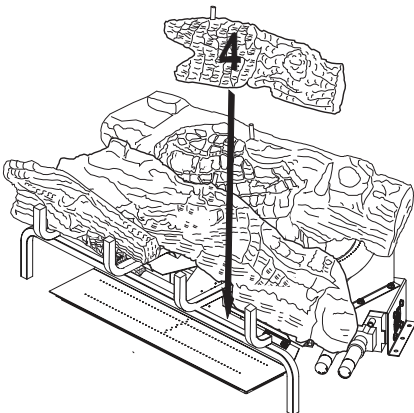

Figure 40 - Installing Log # 4
3. Place the front right log (#4) onto the base assembly between the middle log (#2) and the grate. The back of the front right log (#4) will rest against the front of the middle log (#2). The notch in the end of the front right log (#4) will fit around the grate bar. See Figure 40, page 18.